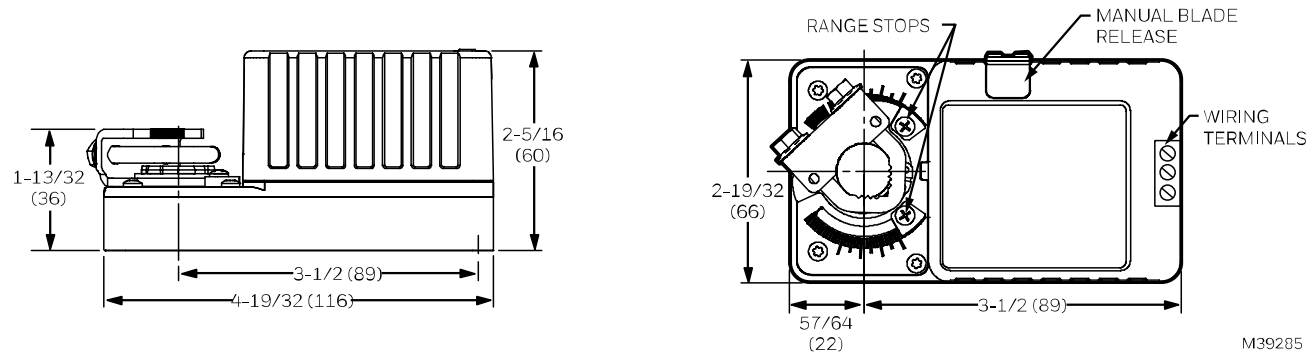

Figure 4. Motor Dimensions and Manual Blade Adjustment.
To verify correct range of motion prior to installation, depress the manual blade adjustment button. While this is pressed, the gears are disengaged, allowing the blade to be manually opened or closed by turning the damper blade shaft (See Figure 4).
5. Verify the new range of motion while depressing the manual blade release button (see Figure 4).